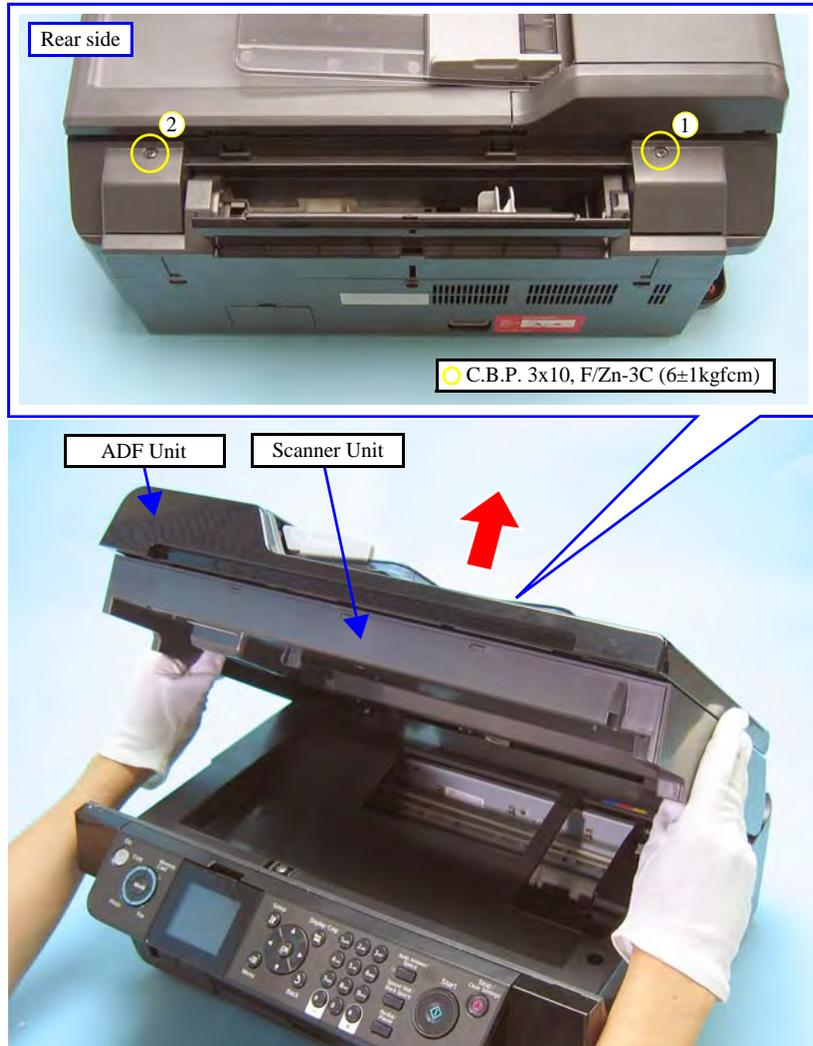

Figure 4-5. Removing the Scanner Unit/ADF Unit (2)
- When installing the Scanner Unit and ADF Unit, tighten the screws in the order given in Figure 4-5.